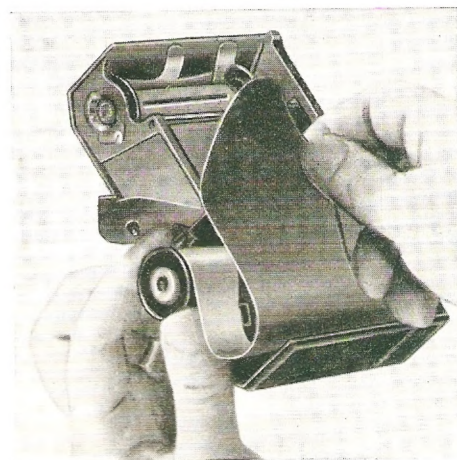

Fig. 8
Open the lower film chamber (39). Unfold the flap (40). Completely remove the gumstrip from the film. Unroll about 10 cm (4") of the protective paper, but hold the film tight to avoid penetration of light. Put the roll film into the lower film chamber, with the colored, printed surface inward, so that the paper leader can be drawn around the large film-sliding roller (38) and across the film pressure plate (37) to the empty spool (Fig. 8). The black surface of the protective paper must be